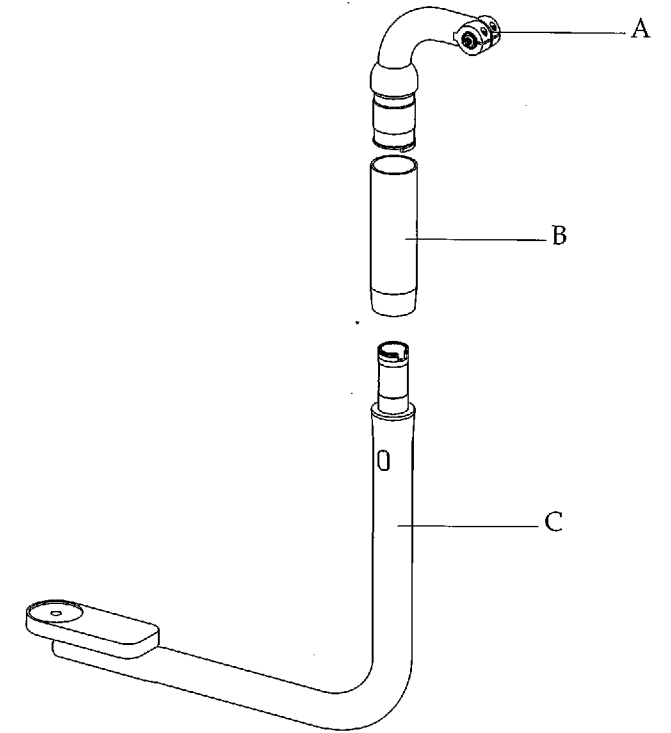

Figure 27. Adding the extender post and monitor-mount arm. (A) monitor-mount arm; (B) extender post; (C) front-mount arm
- Insert the extender post (tapered end first) onto the front-mount arm, rotating the post until it drops into place (see Figure 27).